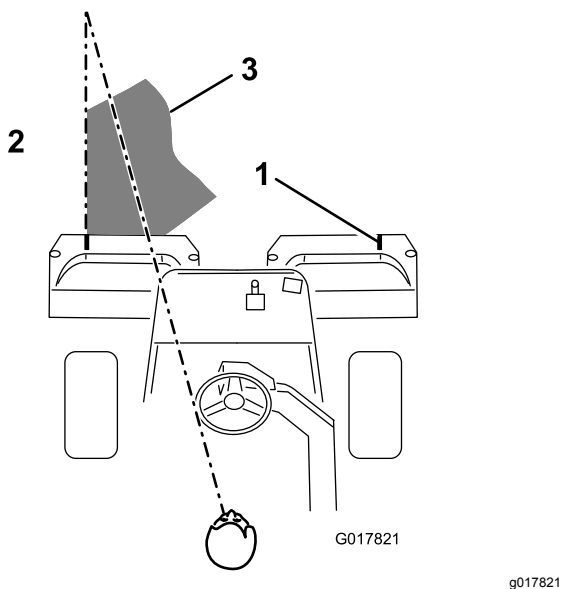

Figure 39
- Overlap a minimal amount with the previous cut on return passes. To assist in maintaining a straight line across the green and keep the machine an equal distance from the edge of the previous cut, establish an imaginary sight line approximately 1.8 to 3 m (6 to 10 ft) ahead of the machine to the edge of the uncut portion of the green (Figure 39). Some find it useful to include the outer edge of the steering wheel as part of the sight line; i.e. keep the steering wheel edge aligned with a point that is always kept the same distance away from the front of the machine (Figure 39).